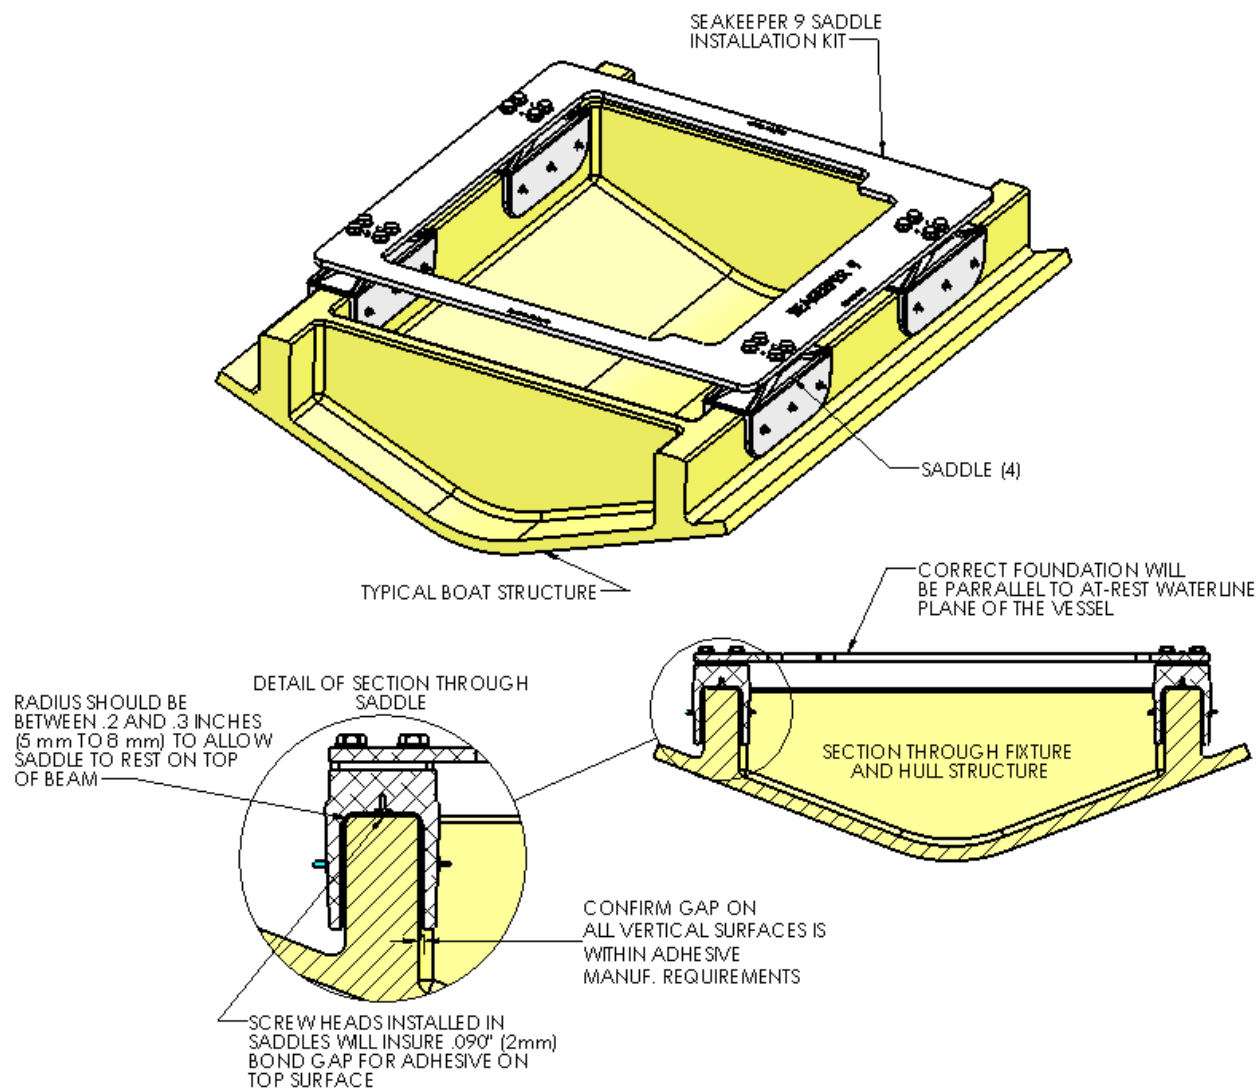

FIGURE 7 – SADDLE INSTALLATION FIXTURE ON NOTIONAL HULL STRUCTURE
- 6) Lower fixture and saddles over the hull structure and apply light downward pressure to each of the four saddles until the two nylon screws rest on the hull structure (SEE FIG. 7). The adhesive will be forced towards the forward and aft ends of each saddle and partially down the sides of the foundation beams.